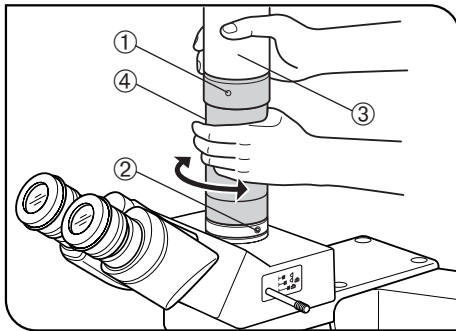

Fig. 4
**With the U-TV1X-2 or U-TV0.25XC (Fig. 4)**